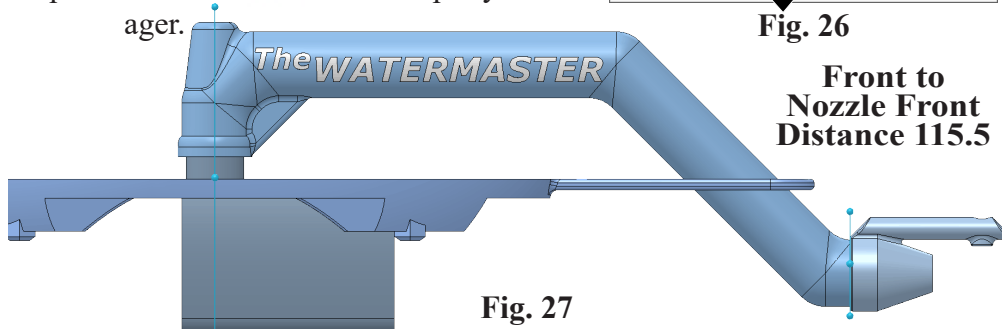

Fig. 27
Step 5. Click **Distance**  in Mate pop-up, Fig. 26. Set distance **115.5** and press ENTER. The **Nozzle** should be on end of Pipe, Fig. 27. If positioned in opposite direction, click **Flip Dimension**  in the Mate pop-up. Click Add/Finish Mate  to add Distance mate.